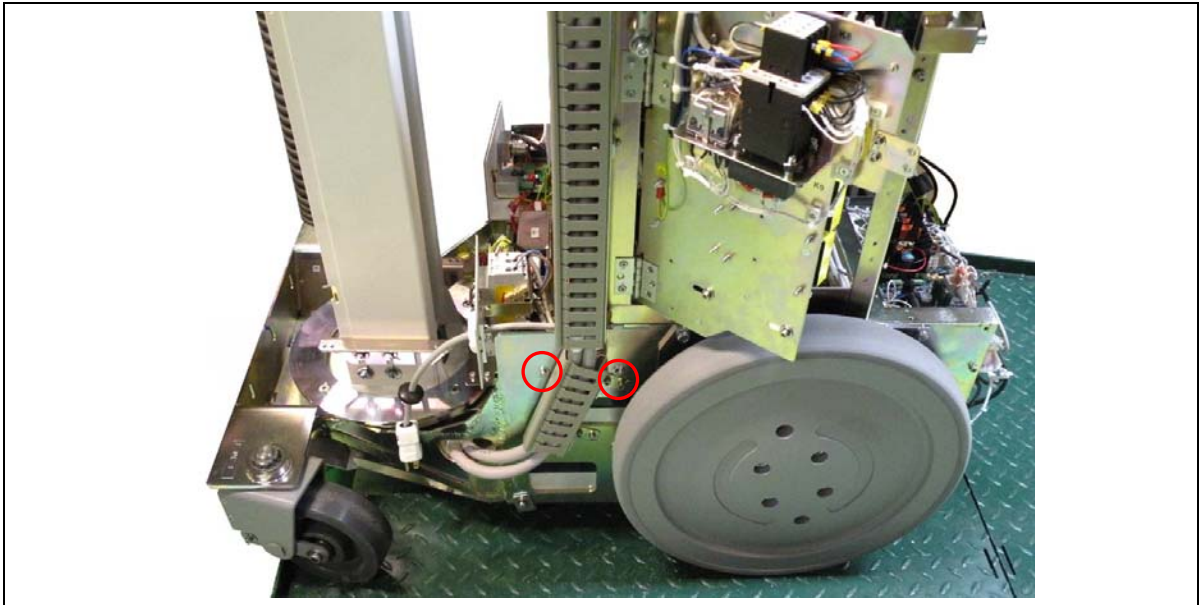

Figure 5
- (1) Turn OFF the unit and disconnect the power line cable from mains.
- (2) Disassemble the cover. Refer to the section about 'Cover Removal' in the 'Troubleshooting' chapter of the Sedecal Service Manual (section 2, 'Referenced Documents' of this document).
- (3) Remove the back and front covers.
- (4) Remove the screws that fix the tray containing the power line cable assembly and the line circuit breaker to both sides of the chassis: two screws in the right-hand side and two screws in the left-hand side (see circle marks in figure 5).